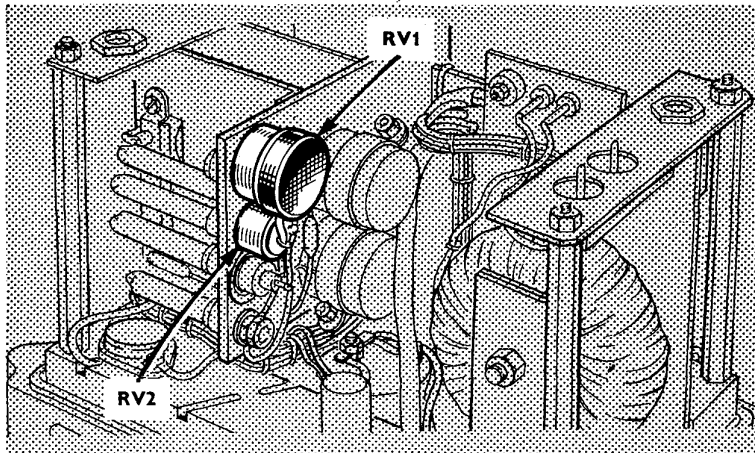

Fig 4 - Potentiometers - battery charging unit
- (a) Set the d.c. input voltage to 11V and adjust RV1 (Fig 4) for an output of $13.2 \pm 0.1V$ on no load.